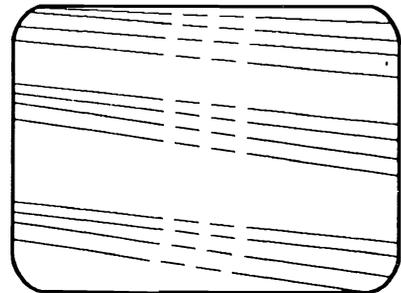

Fig. 3-5. High brightness lines.
- When the monitor is properly warmed up (it takes a minute or so), turn the brightness control knob up as far as it will go. A series of lines should be displayed across the screen (Fig. 3-5). If you don't see this, and the screen remains blank, then the monitor's power supply might be defective. Take the monitor in for servicing.